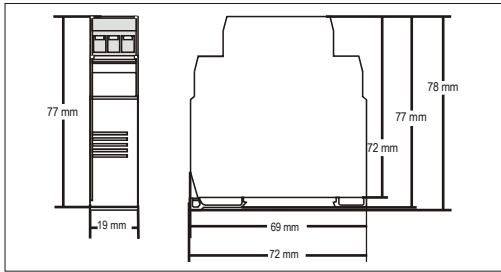

Figure 4 – Transmitter dimensions
The transmitter is intended for DIN rail mounting. Its drawing is presented in figure 4.
**Housing:** ABS plastic. Dimensions: Refer to figure 4.